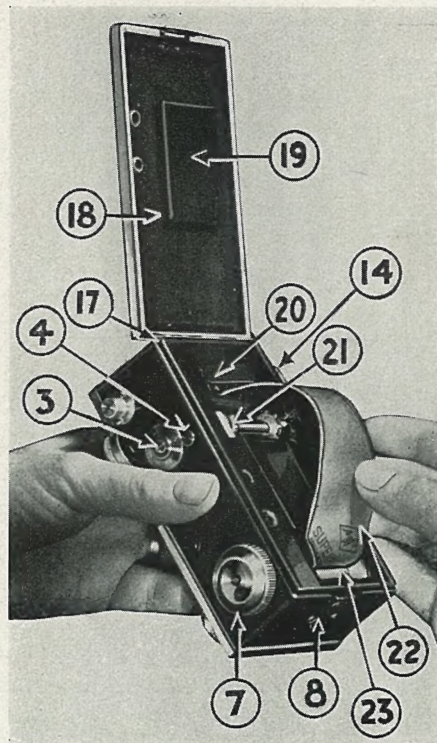

FIGURE 2.
turning the rewinding knob (14, figure 2) in the direction of the arrow. As the film is rewound a click will be heard for each exposure. Continue to rewind for several turns after this clicking stops. When using film with paper leader continue to rewind the film until the winding knob stops revolving. This is done to permit the paper leader to completely cover and protect the film. When rewinding film, care should be taken that the free hand does not retard the motion of winding knob or counter dial.
Grasp the camera in the left hand, and with the thumb depress lock clip (8, figure 2). With the thumb and forefinger of the right hand, raise hinged cover (18) while lock clip is depressed. During loading operations care should be taken not to place unnecessary strain on the hinge (17). The camera should not be lifted or carried by the open back cover.
Draw out the film rewind knob (14) as far as it will come and insert the film magazine into the film cavity as in Figure 2. Snap the rewind knob back in place. This will prevent the magazine from falling out during the remainder of the loading operations. Pull enough film out of the magazine until it extends over the end of the camera case about one inch. The film (22, figure 2) should then be looped as shown and the end inserted in the slot of the winding shaft (23, figure 2).